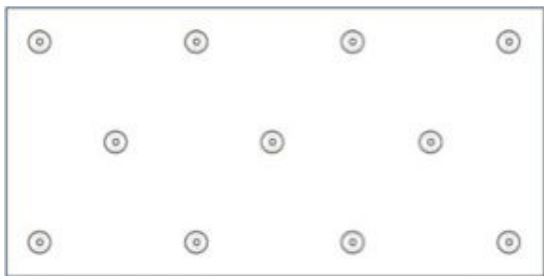
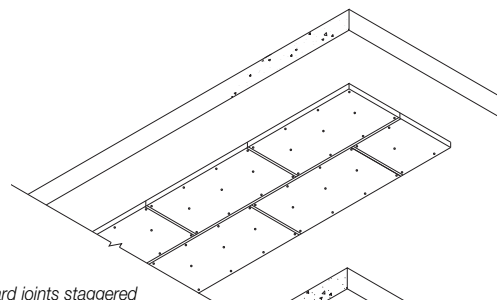
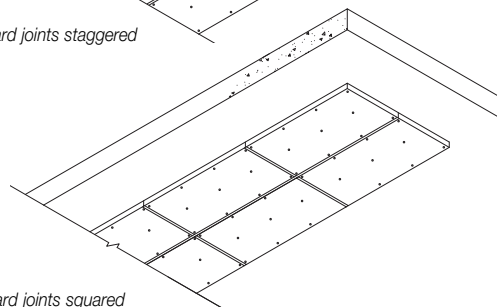

Figure 3 Fastener pattern (11 No. per board)
Figure 5 Board joints staggered
Figure 6 Board joints squared
2. Board joints can be either staggered (see Figure 5) or squared (see Figure 6) and taped with a minimum 96 mm wide appropriate aluminium foil tape. 4 No. fasteners along each length - no less than 50 mm - no more than 150 mm from edge of board, 3 No. fasteners along the middle (offset from edge positions as per diagram Figure 3).